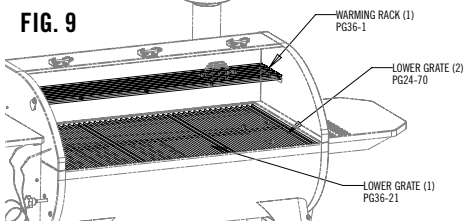

FIG. 9
1. Install the Warming Rack and Cooking Grate as shown in Fig 9.
- opening of the clean-out port. See Fig 9.